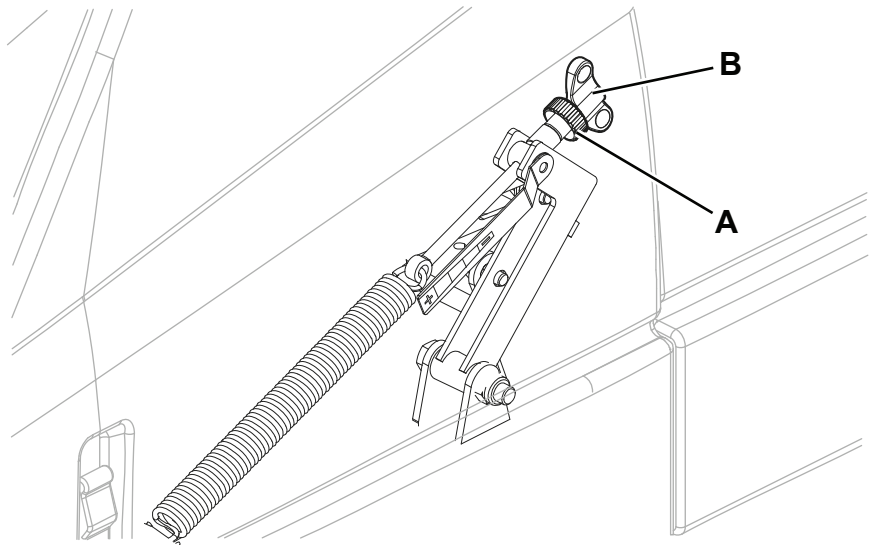

Figure 5
7. To adjust, open the battery compartment hood (1) by using the unlocking push-button (25), loosen the knob (A, Fig. 5) and operate on the main broom adjuster (B) by considering the following: